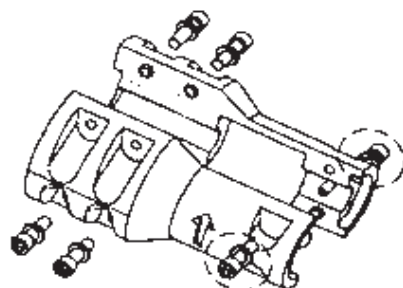

Figure 19: Coupling Socket Head Screws
6. Remove the (4) hex head cap screws on the seal gland. Retain bolts for reassembly.
11. Install the (4) hex cap screws on the seal gland to the seal housing. See the “Engineering Data” section on page 8 of this manual for the proper torque value.
15. Very lightly tighten the (2) socket head cap screws on the pump end of the coupling (refer to Figure 19). Tighten the coupling evenly; ensure that the coupling is symmetrical on both the pump and motor shafts. Do NOT torque the cap screws in this step.